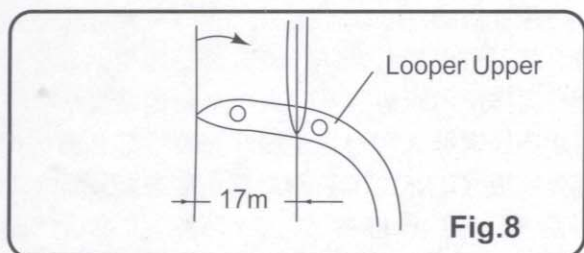
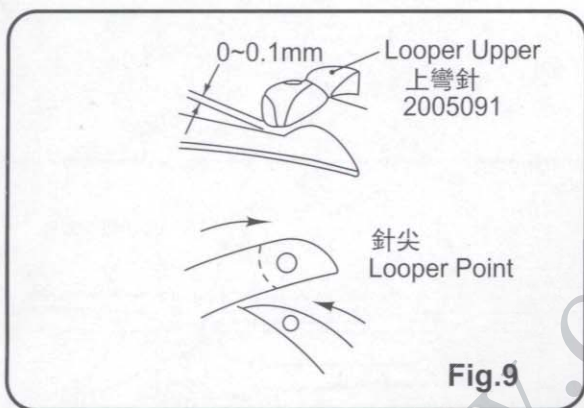
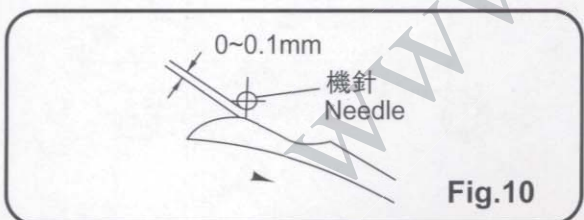
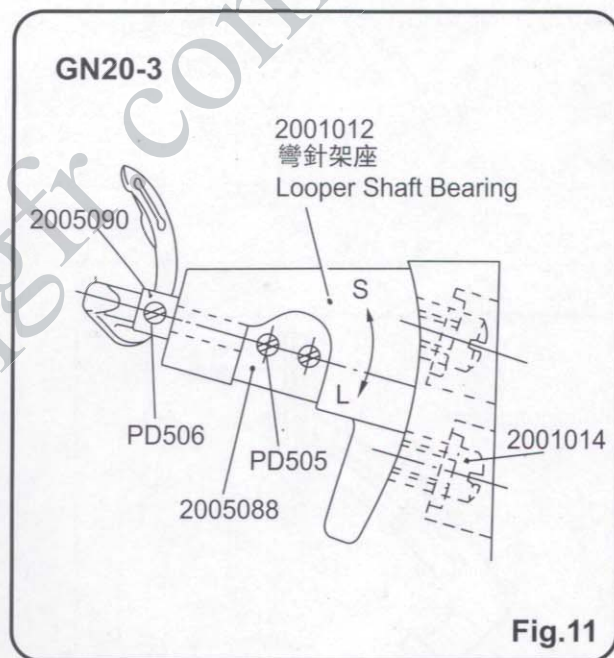

Fig.8
Fig.9
Fig.10
Fig.11
- (1) Turn pulley clockwise until upper looper (2005091) is in the most forward position. Adjust distance between needle center and upper looper point of 17mm (Fig. 8). Tighten screw (PD505) of spreader lever (2005088), Fig. 11 after adjusting.
- (2) Turn pulley clockwise to see upper looper point clears shaved part of lower looper. The clearance must be 0 to 0.1mm (Fig. 9). To obtain the distance, adjust upper looper, and tighten screw (PD506) of spreader lever shaft (2005090), Fig. 11.
- (3) Turn pulley clockwise to see jaw of upper looper just clears needle as it moves from its most forward position to the right. The clearance must be between 0 and 0.1mm as shown in Fig. 10. To adjust, loosen setscrew (2001014) in Fig. 11 and lift looper shaft bearing (2001012) in direction of S to decrease clearance, or lower it in direction of L to increase. Tighten setscrew after adjusting.